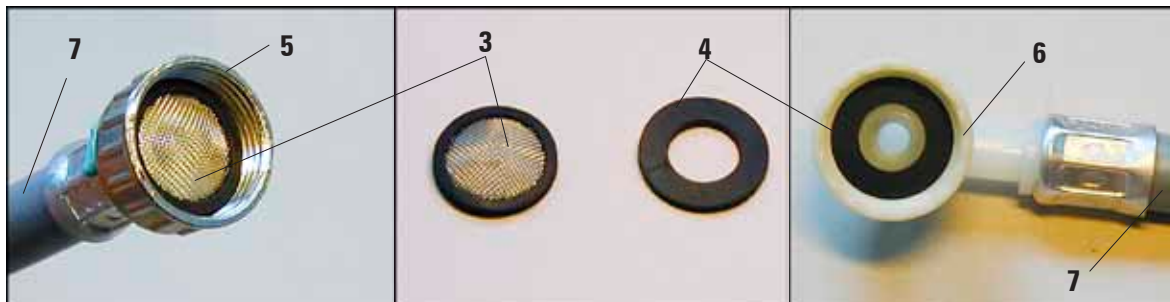

Fig. 6
In addition to the filter sieve supplied (item **3** in Fig. 6) Leica recommends installing a sediment filter between the water extraction outlet and ST5020, to guarantee that the instrument is only operated with clean water.
- Insert strainer (**3**) into union nut (**5**) (see Fig. 6) which is screwed onto the water tap. Do not insert any further gaskets, as the strainer acts also as a seal.